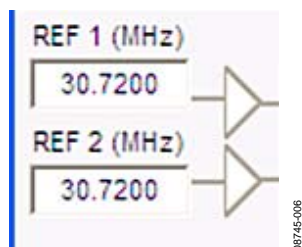
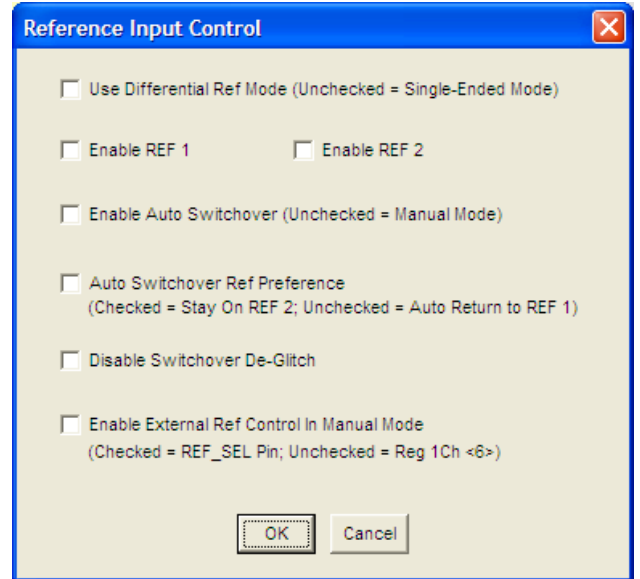

Figure 4. Buffer Symbol
Figure 5. Reference Input Control Window
3. Click the triangular buffer symbol immediately to the right of the input reference frequency (see Figure 4) boxes to load the **Reference Input Control** window shown in Figure 5. Turn the REF1 reference input buffer on by selecting the **Enable REF1** check box, and then clicking **OK**.